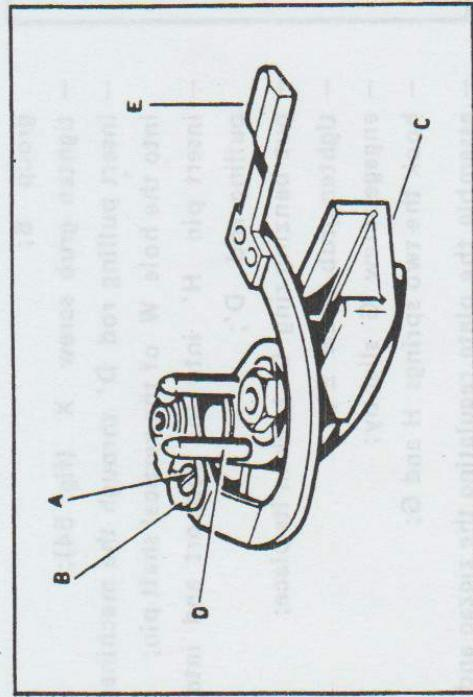

Fig. 57
- loosen screw A slightly (fig. 57);